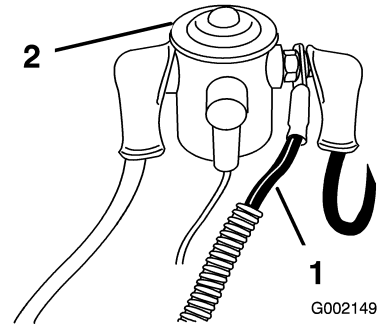

Figure 6
- Connect the red power wire to the left side of the solenoid (Figure 6), located under the seat.